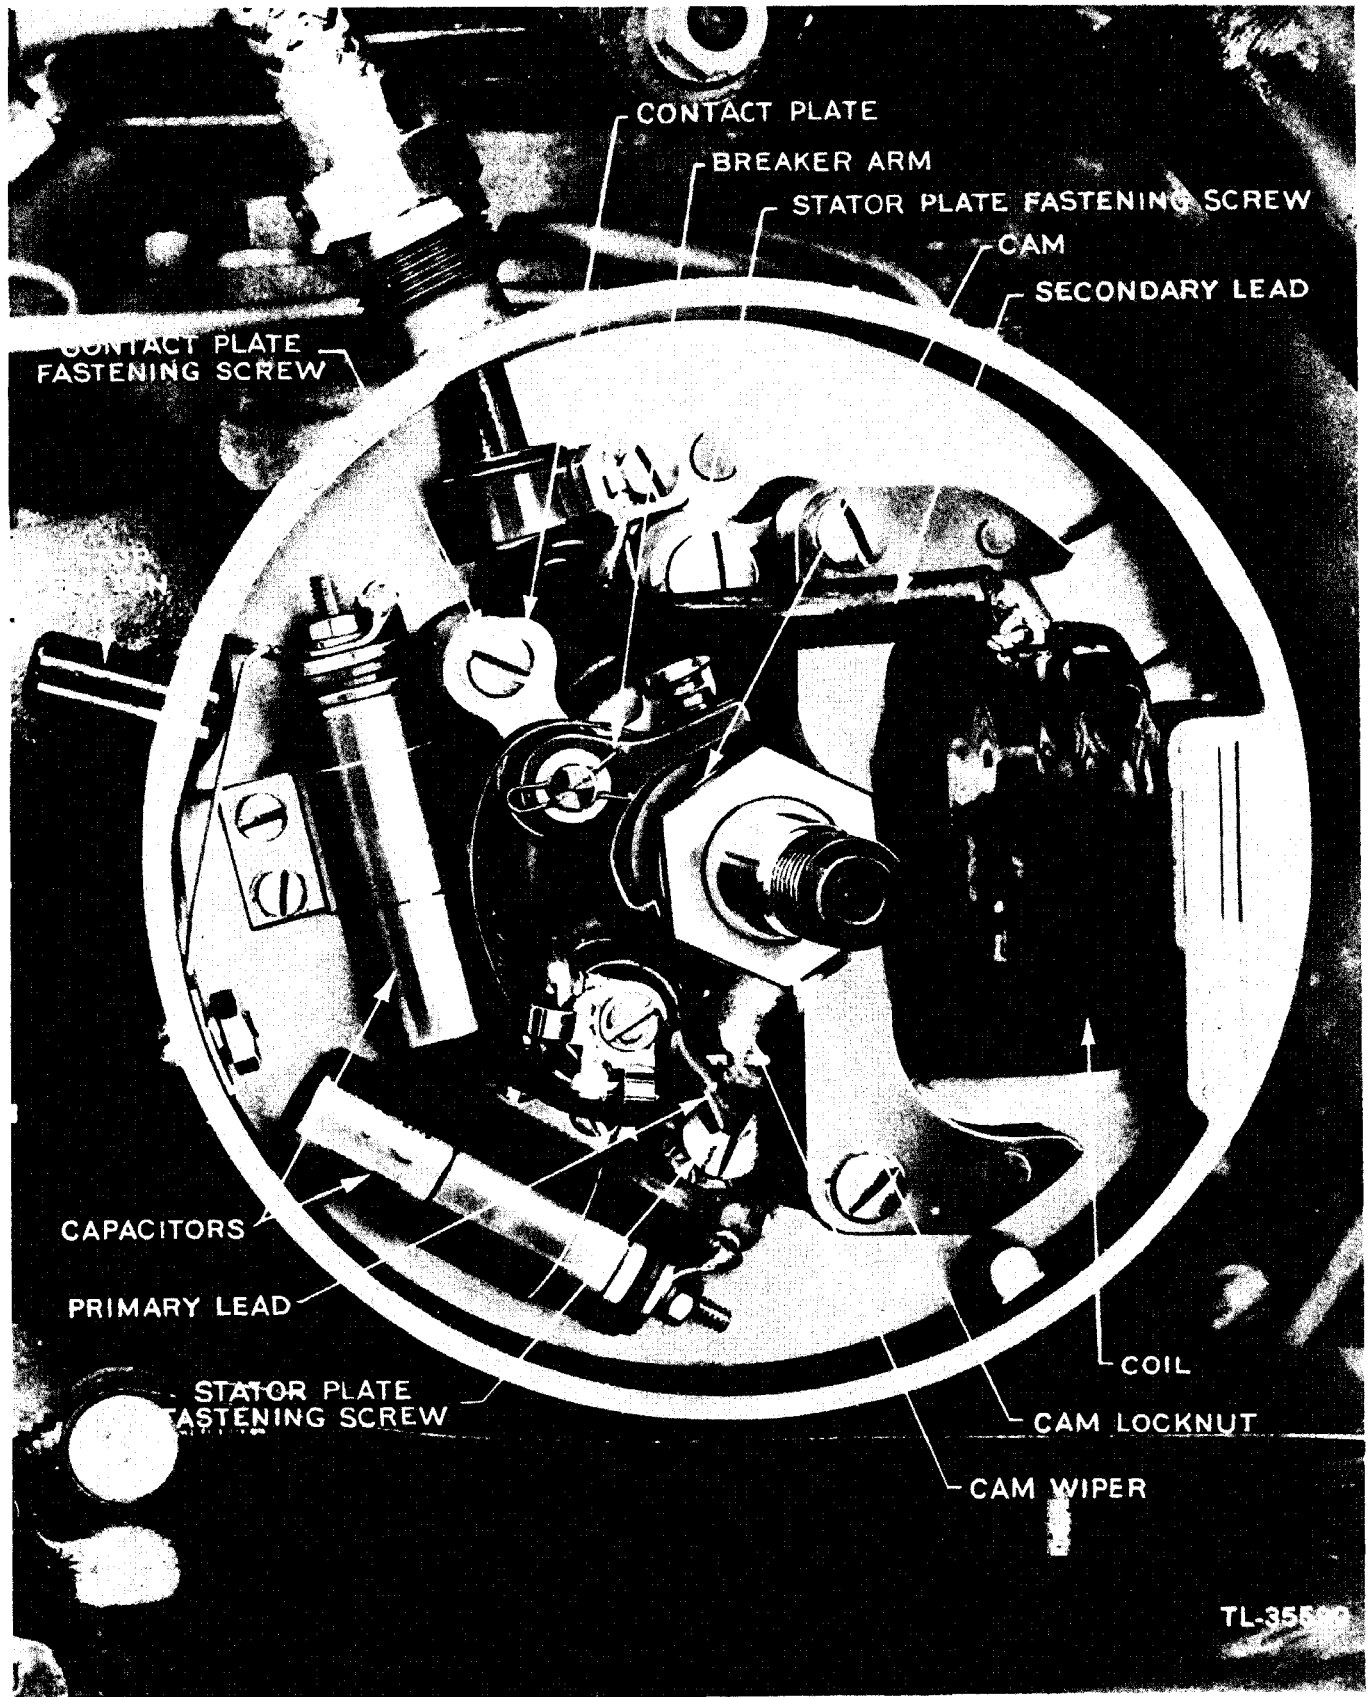

Figure 7. Magneto assembly
(3) Clean carbon and lead deposits from both sides of the adapter baffle with a wire brush (ref. 194). If any of the holes are partially plugged, clean them out with baffle reamer (ref. 198). Replace the adapter gasket if necessary. Clean the exhaust ports (par. 10 *d*). Replace the spark plug and adapter.
b. Ignition (fig. 7). (1) TESTING COMPLETE IGNITION SYSTEM. Disconnect the shielded-conduit connection at the spark plug and remove the suppressor adapter. Slide the molded tube (suppressor) into the smaller end of the spark-gap tester (ref. 199) and snap the larger end of the tester to the spark plug (fig. 5). Slide the tester on the spark plug until the gap between the plug and spring on the end of the molded tube is $\frac{1}{4}$ inch. Spin the engine quickly. If a weak spark or no spark at all is obtained, check the following items.
(2) CONTACT POINT ADJUSTMENT. The only adjustment in the magneto is at the contact points which should be examined at 150 hours and every 100 hours thereafter. The gap setting should be 0.020 inch and the points must be clean and free from oil. To adjust, proceed as follows: